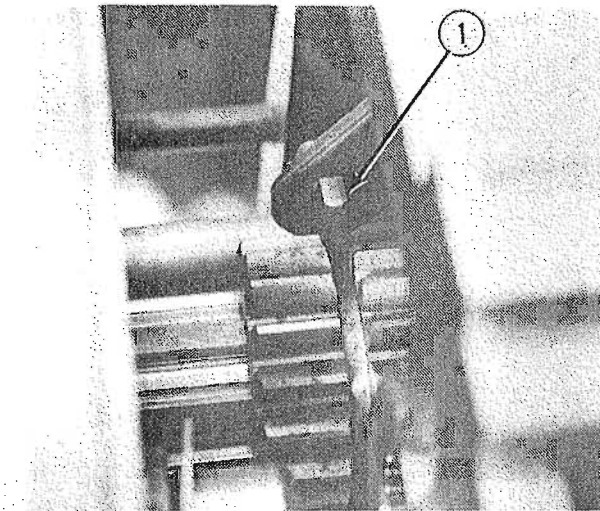

FIG. 13
Place the cover onto the (2) support pins and move it forward until you can engage the shifting dogs into the PTO slider gear (1, Fig. 13) and into the range shifting collar.